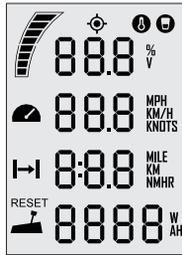

Figure 5-12
If the Remote Controller/Tiller Handle still displays like Figure 5-12 after check, it proves that an error has occurred to the outboard motor and the outboard motor needs repair.
Step4: After setting all the numbers, long press the “ **OK** ” button to return to the main page. If the main page displays normally, the pairing succeeds; but if the main page still displays all the characters as shown in Figure 5-12, the pairing fails.